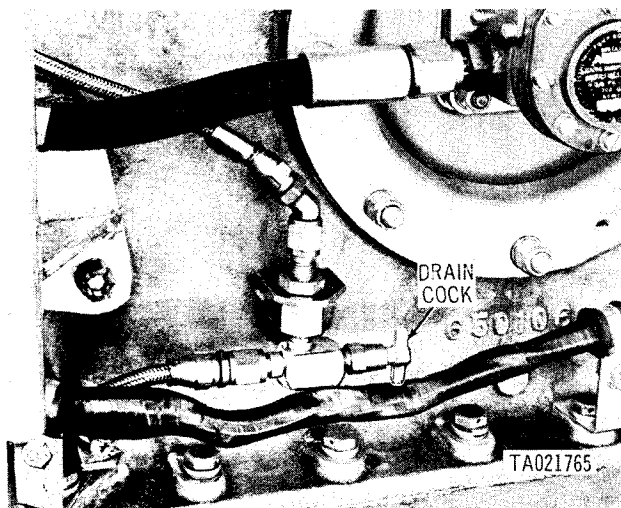
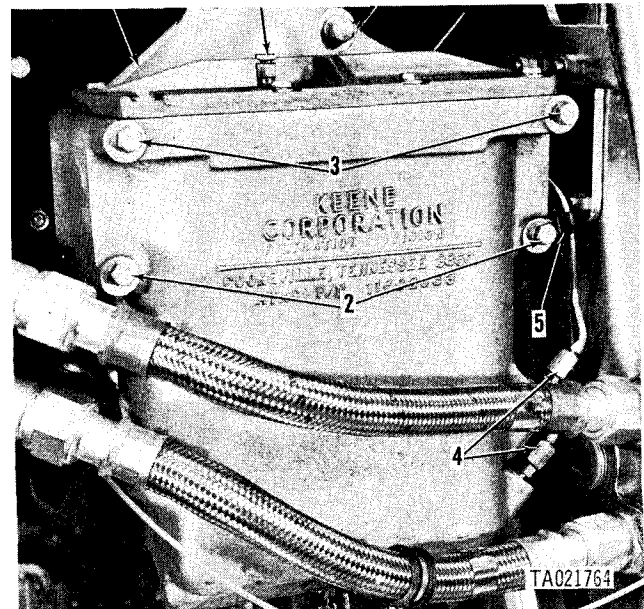

Figure 2-62. Fuel/water separator drain cock.
Figure 2-64. Removing or installing fuel/water separator filter.
(1) Open drain,cock (fig. 2-62), and bleeder valve (1, fig. 2-64) and drain fuel into a suitable container.
(3) Loosen, but do not remove, two lower capscrews (2, fig. 2-64). Remove two upper capscrews (3) and pull fuel/water separator away from bracket. Disconnect two water level probes (4). Remove the two lower capscrews, lockwashers, one flat washer and cushioned clamp (5) and remove fuel/water separator filter from mounting bracket (6). Remove and retain bleeder valve (1) for installation in replacement filter.
(1) Install fuel/water separator filter on mounting bracket (6, fig. 2-64) and secure with two upper capscrews, lockwashers and flat washers (3). Do not tighten capscrews. Install two water level probes (4) and tighten capscrews (3). Attach cushioned clamp (5) to water level probe leads and install two lower capscrews, lockwashers, one flat washer (2) and cushioned clamp.
(2) and connect fuel outlet hoses (1). Remove shipping plug from filter cover and install bleeder valve (1, fig. 2-64) and open. Close drain cock (fig. 2-62) and purge fuel system. Close bleeder valve after purging.
(1) Open drain cock (fig. 2-62) and bleeder valve (1, fig. 2-64) and drain fuel into a suitable container.
(2) Close drain cock (fig. 2-62), and purge fuel system. Close bleeder (1, fig. 2-64) valve after purging.